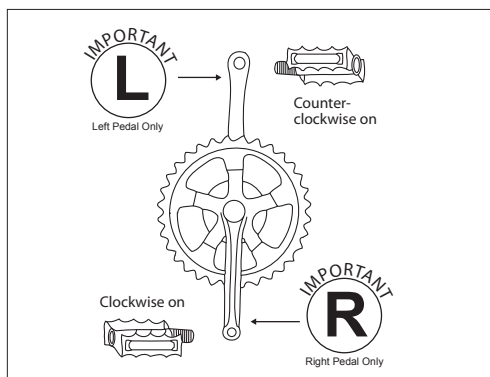

Fig. 26: Install the pedals.
2. The **right** pedal is installed by turning the pedal axle clockwise (Fig. 26).
4. The **left** pedal is installed by turning the pedal axle counter-clockwise (Fig. 26).